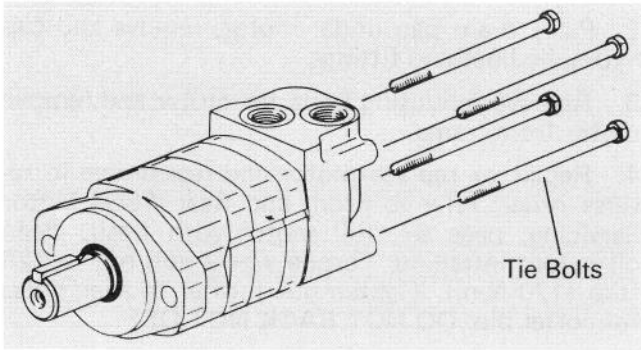

Figure 90
## SERVICING PISTON BLOCK AND CAM PLATE ASSEMBLY (Fig. 90)
3. Remove 4 bolts from motor (Fig. 90).